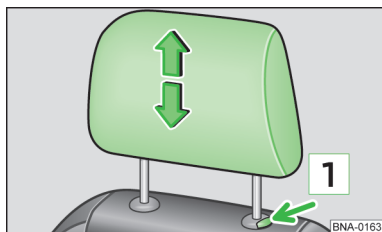

Fig. 16
- Slide the head restraint upward in the direction of the arrow or press and hold the button **1** » fig. 16 to slide it downward » .
- Press and hold the button **1** » fig. 16 and pull the head restraint all the way out.